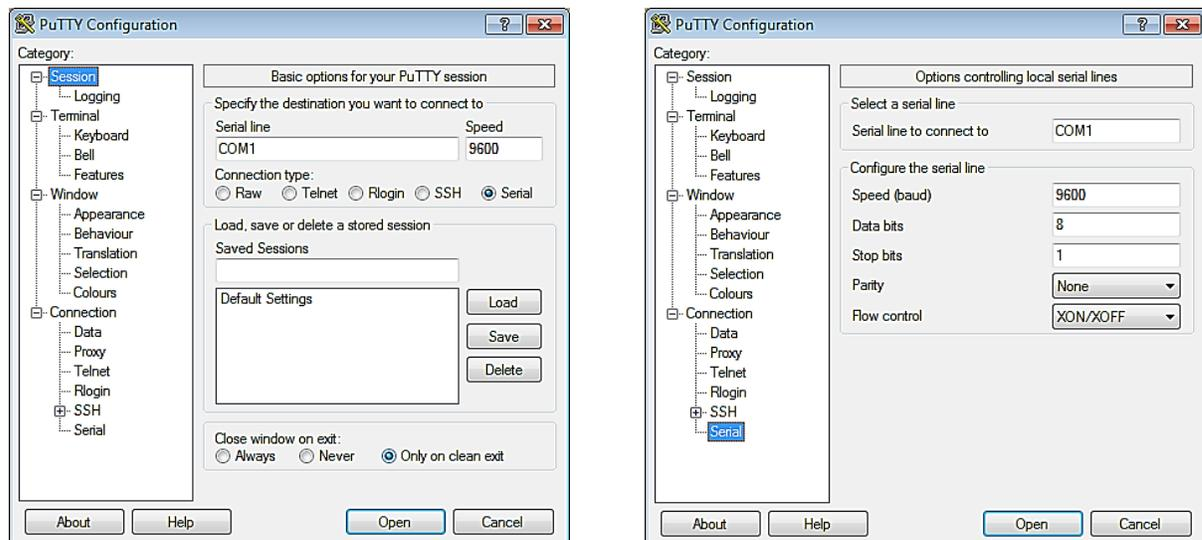

Figure 7-1: PuTTY GUI: Basic Serial Session (L) and Serial Options (R)
To use **PuTTY** to logon to a remote machine, bring up the PuTTY application by double-clicking its icon. You will see the main window as shown in left image of Figure 7-1.
To create a Serial connection, click the radio button labeled **Serial**. The **Serial line** and **Speed** fields will then be automatically filled in as shown in *left* image of Figure 7-1, but will allow you to specify the serial line to use (if your computer has more than one) and what speed (baud rate) to use when transferring data. For further configuration options (data bits, stop bits, parity, flow control), you can use the **Serial Configuration** panel (*right* image in Figure 7-1) by selecting "Serial" in the left navigation pane.
So that you don't have to enter this information every time you wish to connect to your server, you can save this configuration by typing an appropriate *name* in the **Saved Sessions** text box in the PuTTY "Basic Options" window (left image of Figure 7-1) and then clicking the **Save** button. In the future, you can select the *name* you chose in the list box and click the **Load** button to initialize this particular configuration.
2. At the bottom of the Basic Options dialog box (left image of Figure 7-1) in the section titled: **Close window on exit**, select the **Never** radio button. This will keep the window open after the command has finished executing so that you can see any results in the terminal window.